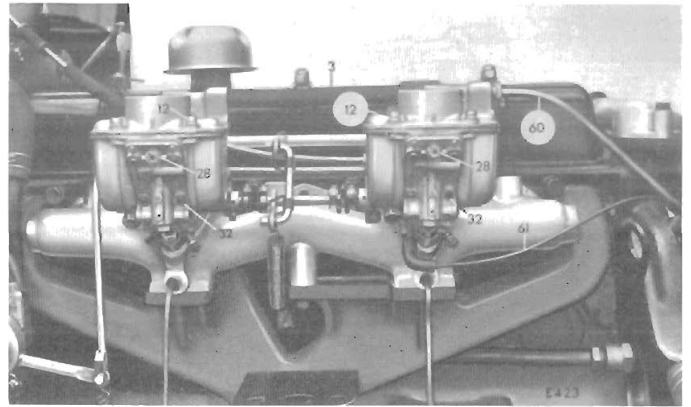

Fig. 36. R.H. view of carburetors
**To Check Needle Valve Height (Fig. 36)**
**Jet Block — Removal (Fig. 36)**